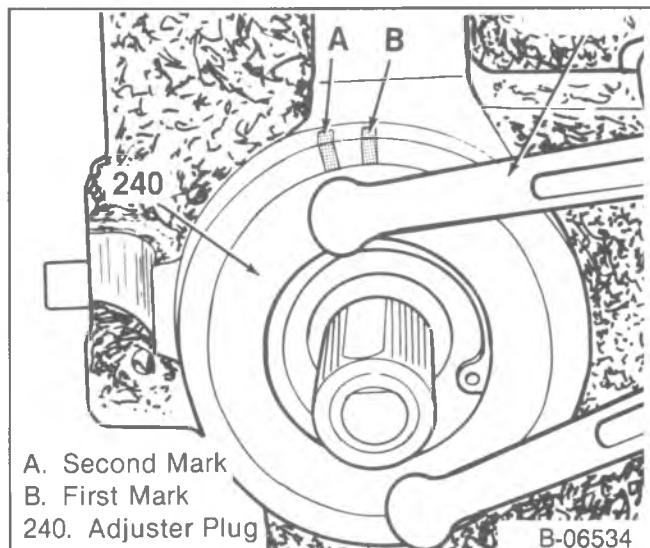

Figure 19—Aligning the Adjuster Hole with the Secount Mark
- Rotate the adjuster to the left until the hole in the adjuster is in line with the second mark (figure 19).